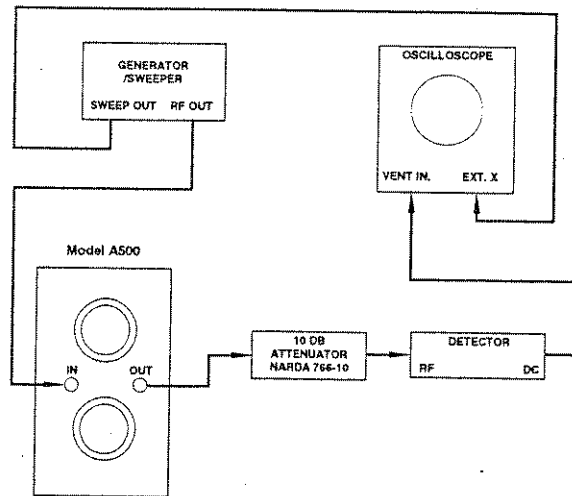

Figure 5-1. Gain and Gain Variation Test Set-Up
- a. Set-up the test equipment as shown in Figure 5-1.
- h. Reconnect Model A500 into the test set-up of Figure 5-1.